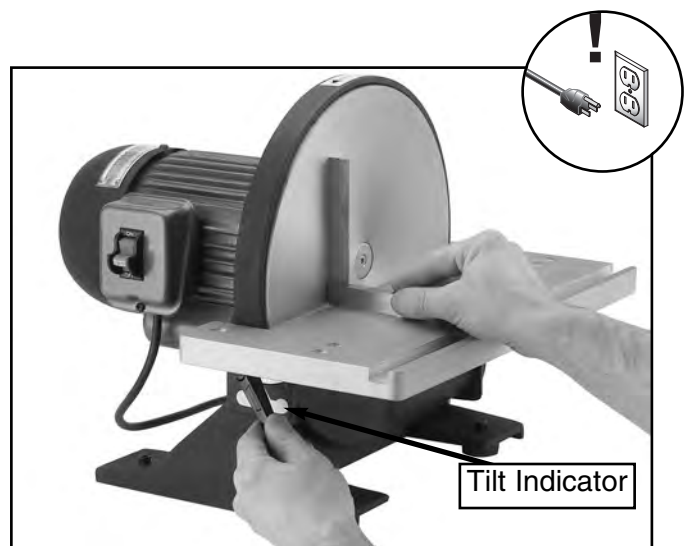

Figure 3. Squaring disc table.
1. Using a try square or machinist's square, set one edge on the table surface and the other against the face of the disc as shown in **Figure 3**. Note—*This can be done with the sandpaper installed, although it is somewhat easier to measure if the disc does not have the sandpaper disc installed.*